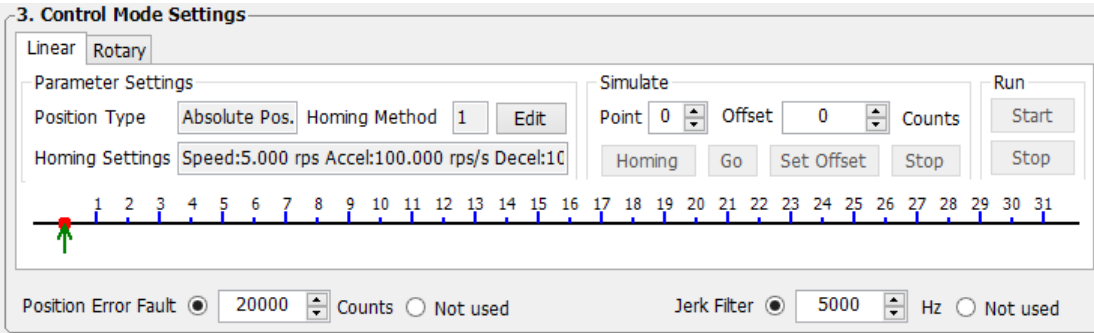

Figure 14.2 Linear motion setting
- 3) Select linear motion from “3. Control mode setting” as show in Figure 14.2 Linear motion setting.